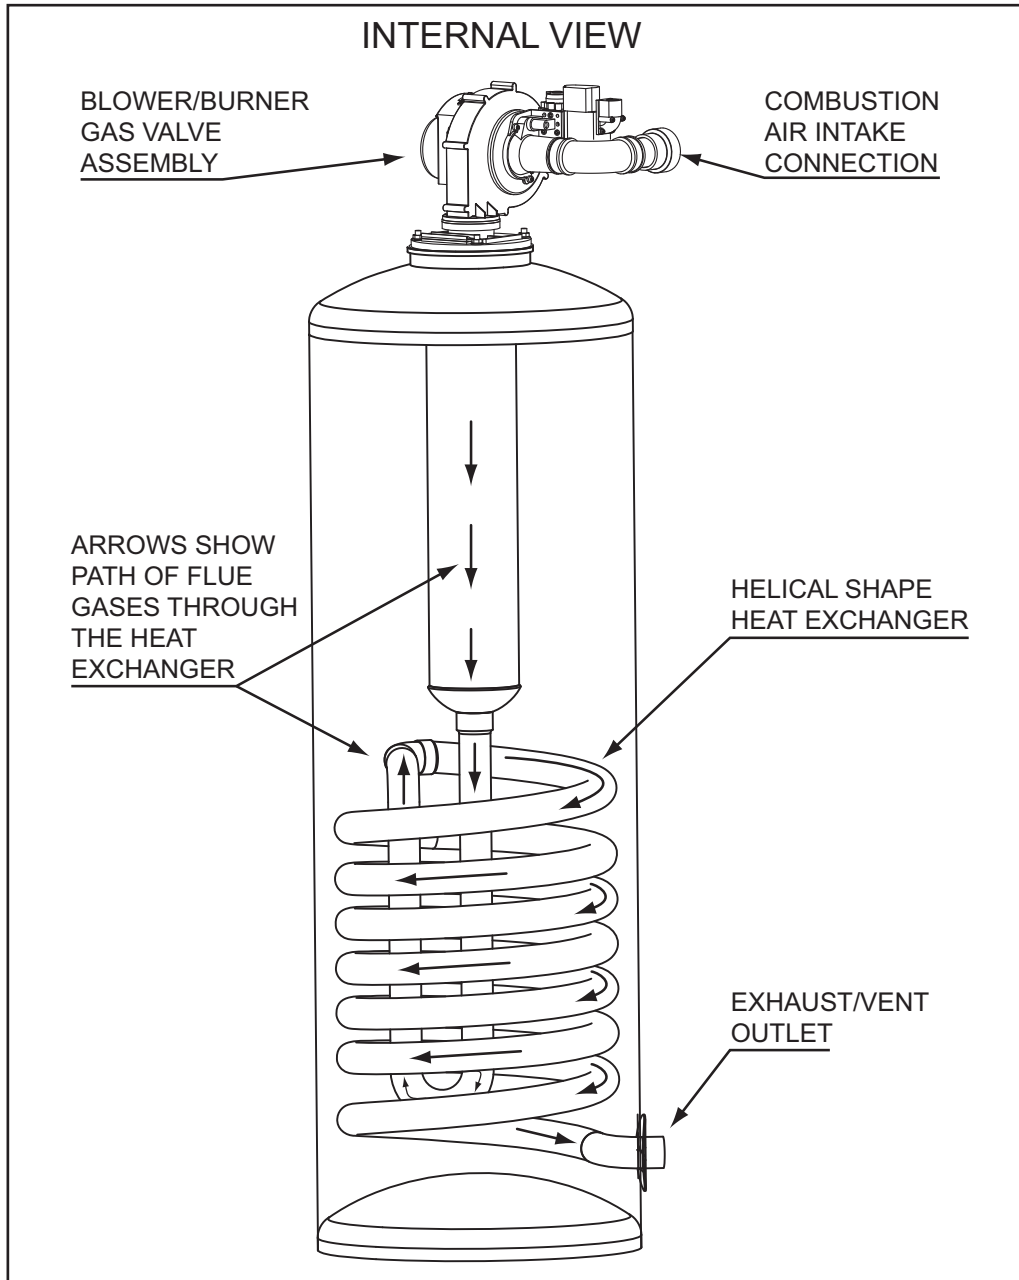

Figure 6
Starting at the top air and fuel gas are drawn in by the Combustion Blower and Venturi, see Combustion Blower on page 11 and Venturi on page 22. Flue gases and are forced through the helical shaped heat exchanger by the Combustion Blower and out through the exhaust/vent outlet, see Figure 6 below.
- Do not place any screws, studs, nuts, parts or tools on top of the water heater when removing the Combustion Blower and/or Burner Assembly. Place these and any other loose objects in a safe location during these procedure. Small parts and tools can easily fall down into the heat exchanger during these procedures and may be extremely difficult or to retrieve. See Figure 6 on page 10.